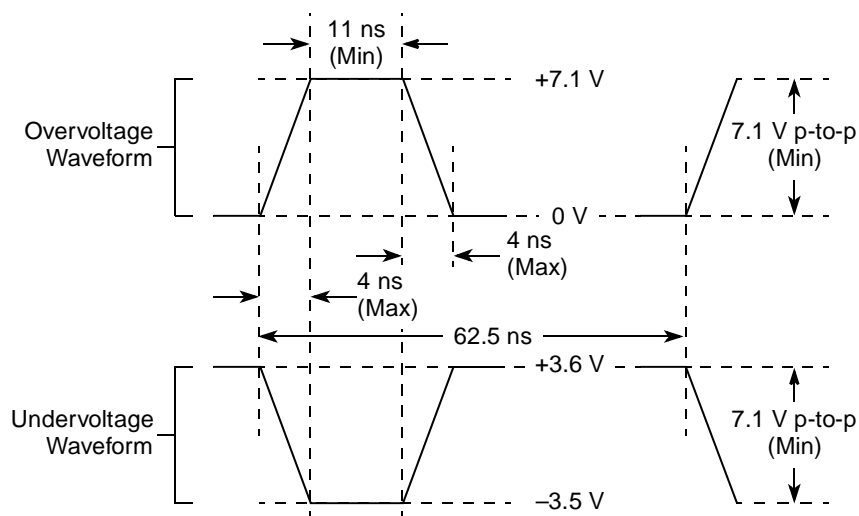

Figure 3. Maximum AC Waveforms on PCI Interface for 3.3-V Signaling
- 6  $OV_{IN}$  on the PCI interface can overshoot/undershoot according to the PCI Electrical Specification for 3.3-V operation, as shown in Figure 3.
Figure 3 shows the undershoot and overshoot voltage of the PCI interface of the MPC8349E for the 3.3-V signals, respectively.